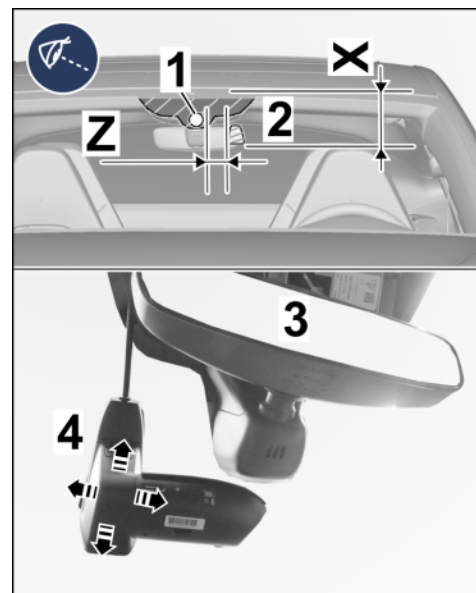

Figure 7
- 2.1.3 Copy dimensions X and Z on the windscreen (\Rightarrow Figure 7-top-).
2.1.4 Position front camera with retainer plate in the vehicle at the marking on the windscreen (⇒ *Figure 7-Arrow-*).